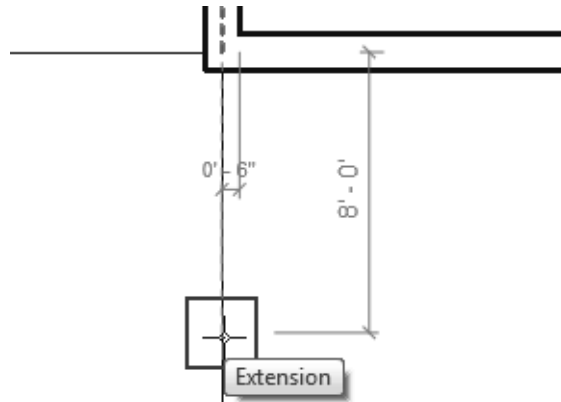

Figure 2–51
3. Using alignment lines and temporary dimensions, place the column on the front left of the building, as shown in Figure 2–51.